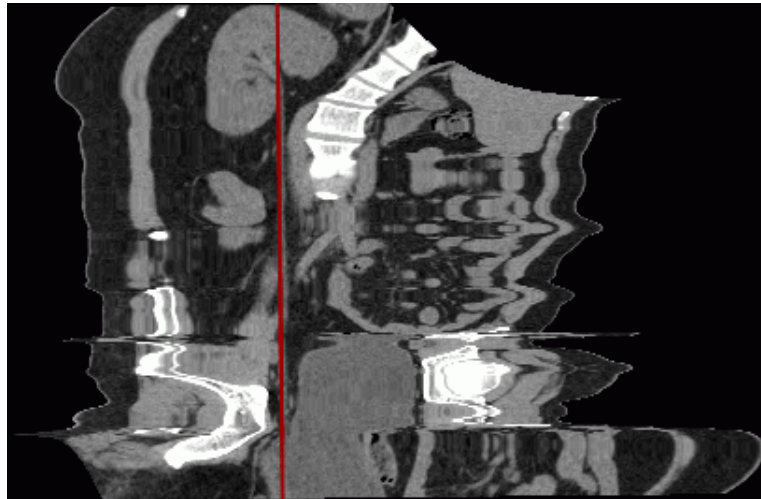

Figure 5.8: Straigtened Involute curve mode
- **Straightened involute.** The mode is set by default. In the straightened involute curve window (Fig. 5.8), the curve built by the user is transformed into a straight line. The distortions of space along the curve are marginal and increase with distance from the curve. We recommend this mode when the region of interest is placed near the curve. This option provides for the highest possible level of detail along the curve.